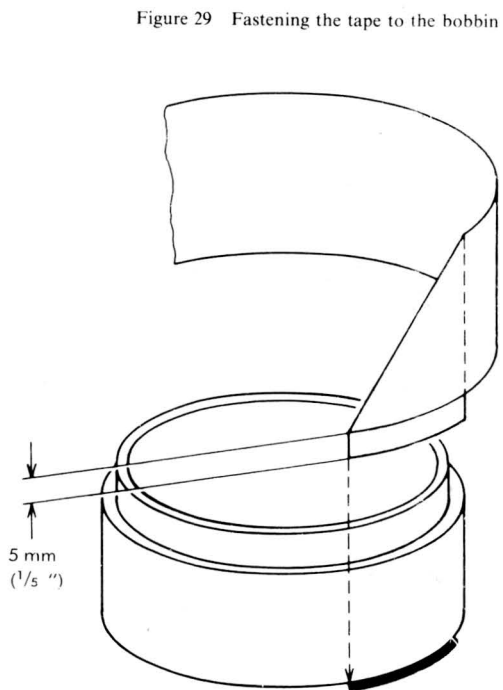

Figure 29 Fastening the tape to the bobbin
- Step 6 Move the take-up motor aside and fit the take-up flange into place over the supply roll. Place a bobbin on the take-up flange and lock it by pushing down on the bobbin lock. Wind the tape one turn clockwise round the tape lifter and attach the tape to the bobbin. This is shown in Figure 29, where the end of the tape has been folded across the tape at 90 degrees leaving approximately 5 mm of tape protruding. Insert the tape end into the slot in the take-up flange and wind the bobbin a couple of turns.
- Step 7 Lock a new bobbin into place and attach the tape end by folding as shown in Figure 29. Swing the moveable tape guide over to the right until the ERROR indicator light goes out.